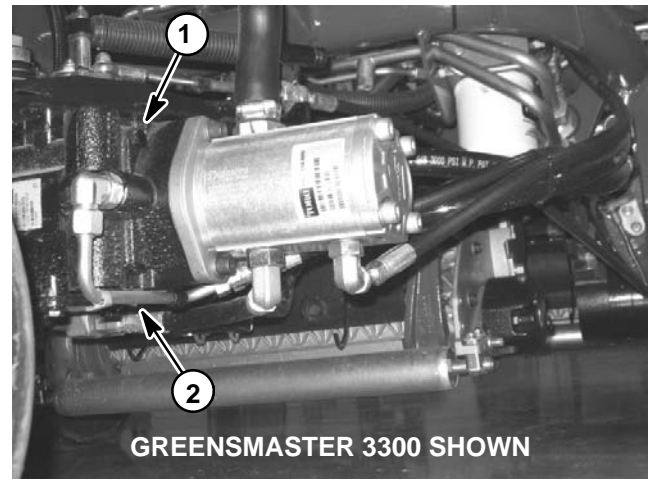

Figure 20
3. Thoroughly clean junction of hydraulic hose and hydraulic tube that runs under piston (traction) pump (Figs. 20 or 21). Disconnect hydraulic hose from the hydraulic tube.